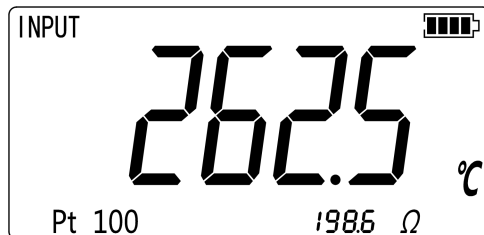

Figure 4-1
2. Press to indicate RTD reading. Then the screen will display as shown in Figure 4-1. If necessary, pressing continuously to select RTD type.